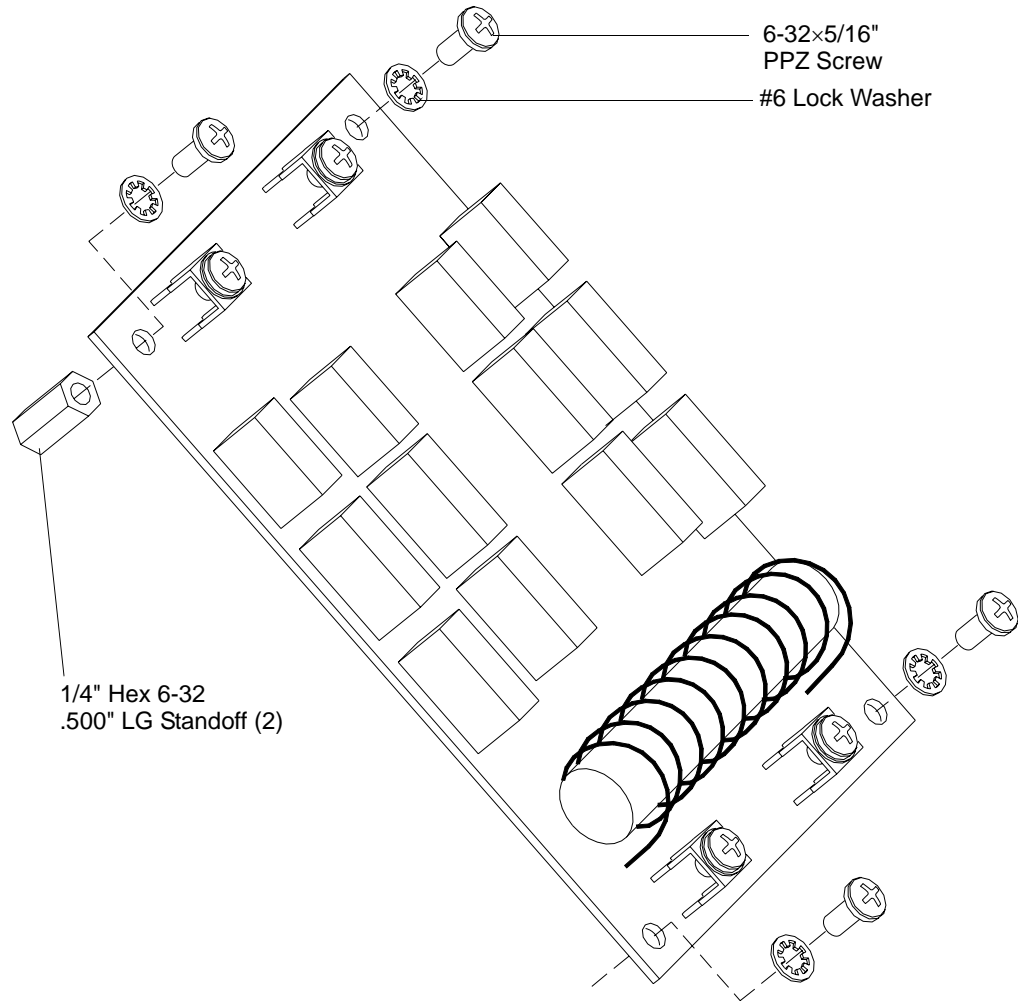

Figure 2-15: Ignitor PCB Standoff Removal
Step 8. Remove two 1/4" hex 6-32 .500" LG Standoff (2) by removing one 6-32×5/16" PPZ screw and #6 lock washer. Install in same place on new ignitor PCB. Figure 2-15.